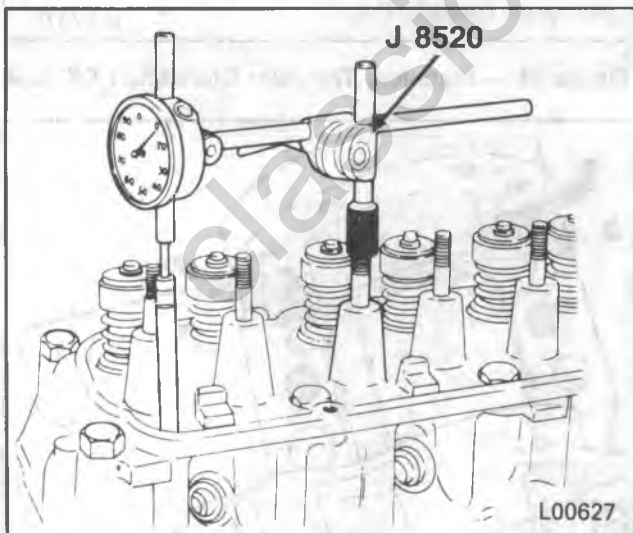

Figure 26 — Checking Valve Timing Or Camshaft Lobe Lift
2. Install a dial indicator with J 8520 (figure 26). Turn the crankshaft until the #2 exhaust valve opens and the notch on the damper is aligned with the "0" mark on the timing tab.
2. Install a dial indicator with J 8520 (figure 26). Position the dial indicator so the plunger rests on the pushrod end, as shown. Make sure the pushrod is in the lifter socket.